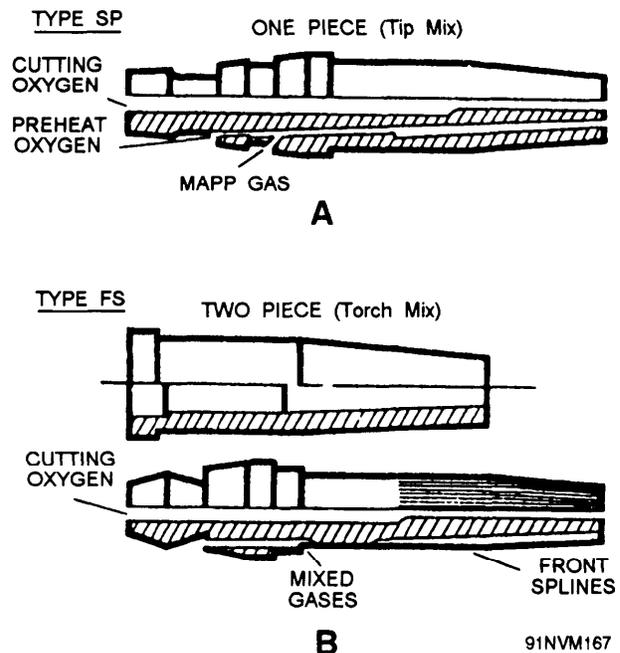

Figure 8-13.—MAPP gas cutting tips.
**SP TIP.**—The SP tip (fig. 8-13, view A) is a one-piece standard-pressure tip. It is used for cutting by hand, especially by welders who are accustomed to one-piece tips. SP tips are also likely to be used in situations where MAPP gas is replacing acetylene as the fuel gas.
**FS TIP.**—The FS tip (fig. 8-13, view B) is a two-piece, fine-spline, standard-pressure tip. It is used for cutting by hand as well as by machine. Welders accustomed to two-piece cutting tips will use them in hand cutting, especially in cases where MAPP gas is replacing natural gas or propane as the fuel gas. The FS tips will produce heavier preheating flames and